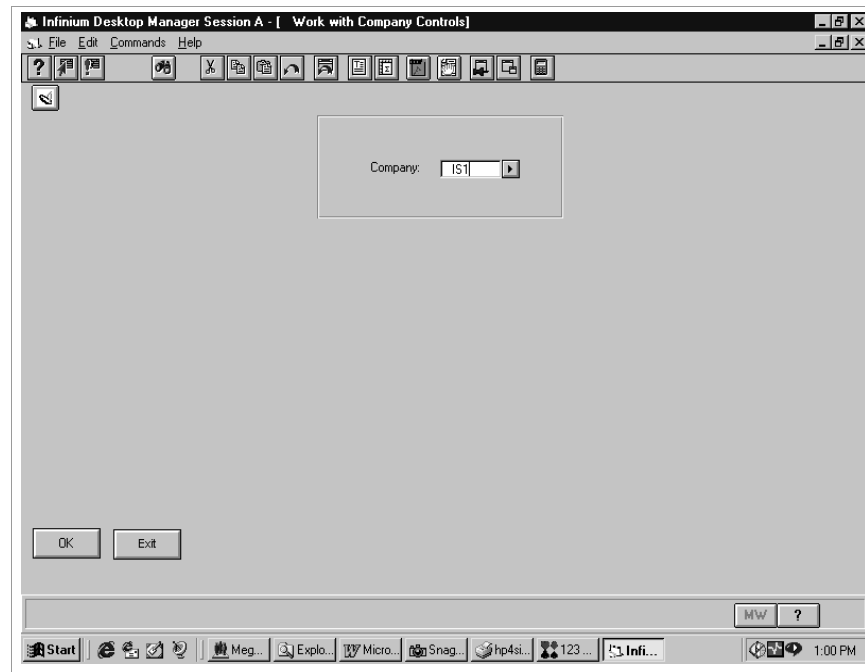

Figure 4-7: Work With Company Controls Prompt screen
- 2 Select *Work With Company Controls* [WWCO]. The system displays the screen shown in Figure 4-7.